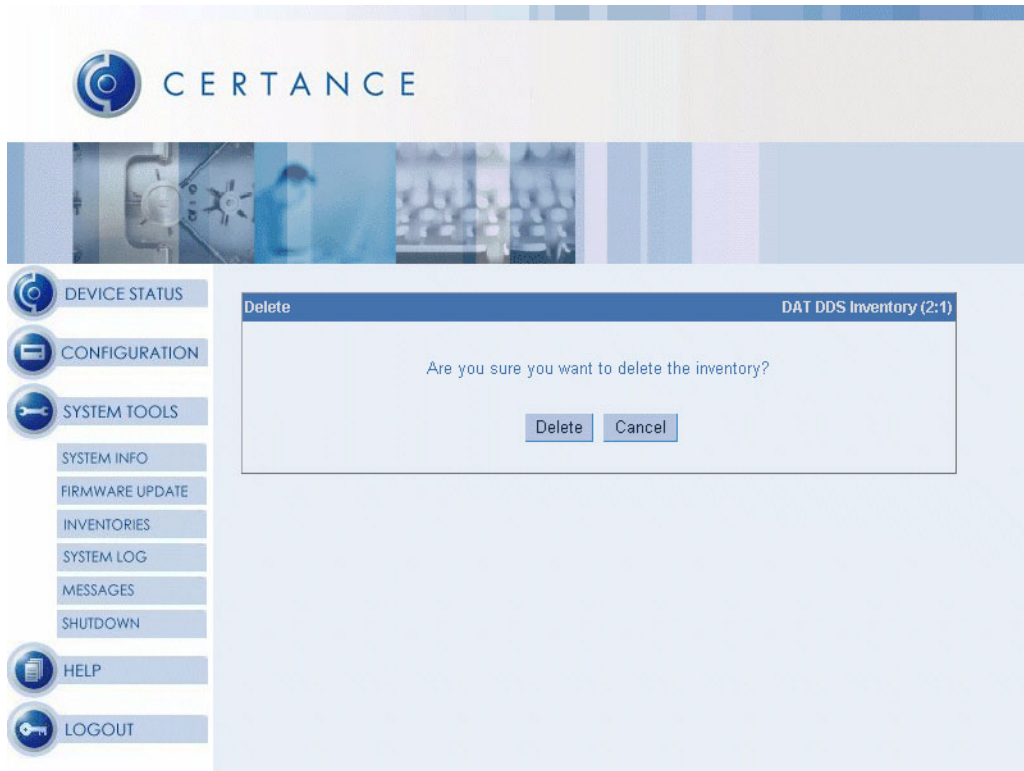

Figure 40. Message when Deleting an Inventory
2. Click the **Delete** button next to the inventory you want to delete. A message asks whether you are sure you want to delete the inventory (see Figure 40 on page 79).